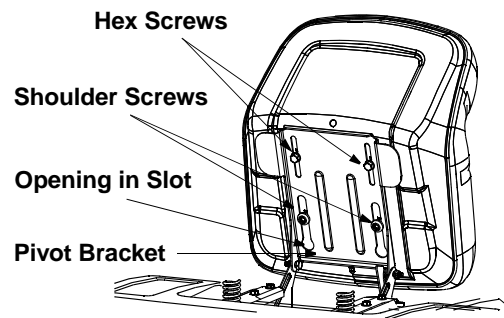
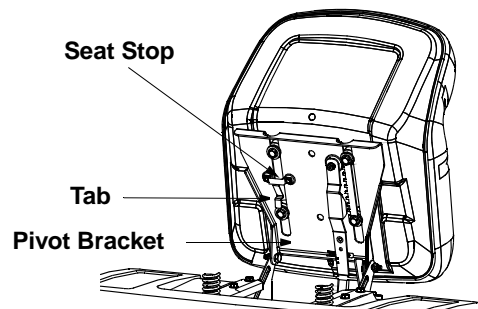
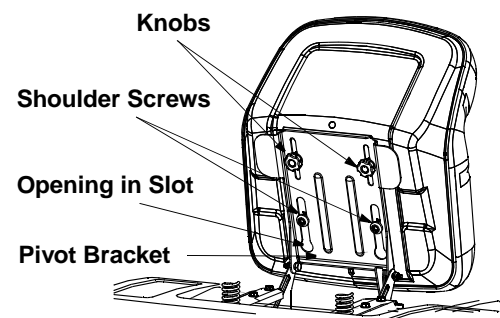

Figure 3
Figure 4
Figure 5
Refer to Figure 3, Figure 4 and Figure 5 to identify your tractor's seat style and follow applicable instructions.
1. Position the shoulder screws (found on the base of the seat) inside the slot openings in the seat pivot bracket. See Figure 3.
3. Select desired position for the seat, and secure with the two hex screws removed earlier. See Figure 3.
**NOTE:** If your seat was shipped mounted backwards on the seat pivot bracket, pull out the tab found on the seat stop and hold it open while sliding the seat off the seat pivot bracket. See Figure 4.
2. Slide seat in until front seat spacer engages the seat stop. See Figure 4.
1. Position the shoulder screws (found on the base of the seat) inside the slot openings in the seat pivot bracket. See Figure 5.
3. Select desired position for the seat, and secure with the two knobs removed earlier. See Figure 5.